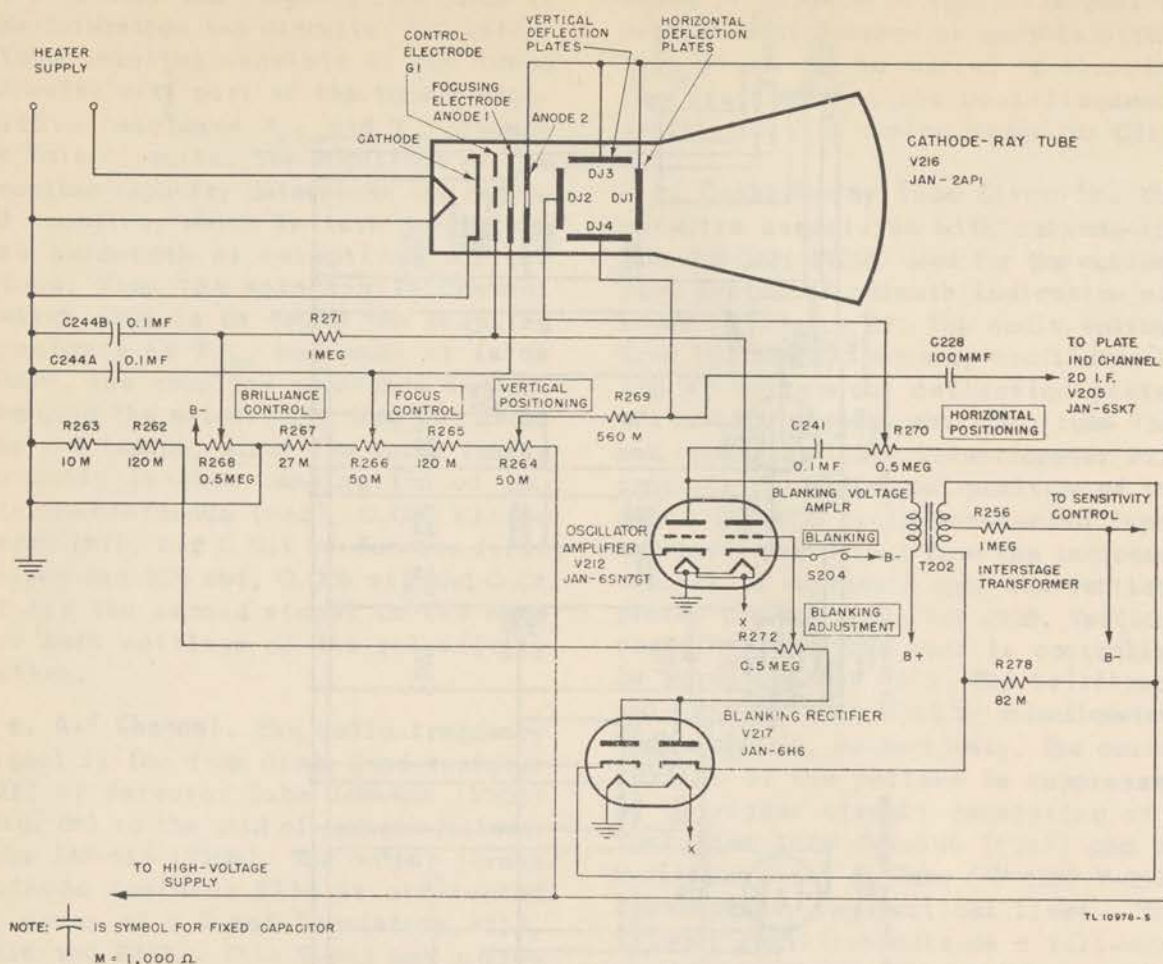

Figure 87. Cathode-ray tube controls.
g. Cathode-ray Tube Circuits. The circuits associated with cathode-ray Tube JAN-2AP4 (V246) used for the matched-line system of azimuth indication are shown in figure 87. The audio voltage from the audio-frequency oscillator is fed to horizontal deflection plates DJ1 and DJ2 through amplifier tube V242 and capacitor C241. Potentiometer R270 controls the horizontal position of the spot. The 100 cycle-per-second (cps) modulated i-f output from the indicator channel is impressed upon the vertical plates through capacitor C228. Vertical positioning of the spot is controlled by potentiometer R264. The brilliance and focus are controlled by potentiometers R268 and R266, respectively. The center portion of the pattern is suppressed by a trigger circuit consisting of a rectifier Tube JAN-6H6 (V247) and an amplifier (half of Tube JAN-6SN7 V-242) leaving only two vertical lines. The trigger rectifier acts as a full-wave rectifier with the 100-cps input applied directly from the low-frequency oscillator through the transformer T2O2. The rectified pulses control the plate current of tube V242 which in turn controls bias on control electrode G1 and, therefore, the brilliance of the pattern. During the peaks of the audio wave, the rectified pulses are sufficiently high to completely blank out the tube. The degree to which the pattern is blanked out can be adjusted by blanking adjustment potentiometer R272. The blanking action can be removed entirely by the blanking switch S2O4 which opens the cathode circuit of the amplifier tube.